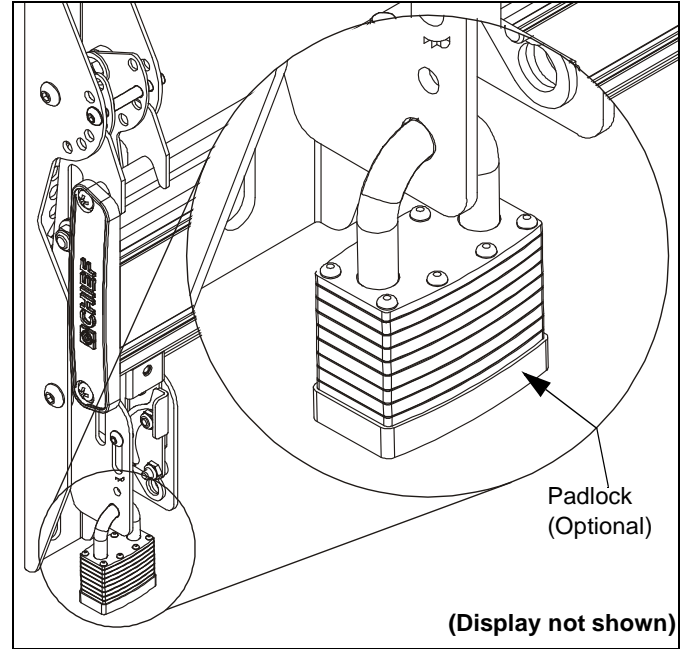

Figure 18
1. **OPTIONAL:** Add padlock (not included) to each interface bracket to lock display to ceiling mount. (See Figure 18)